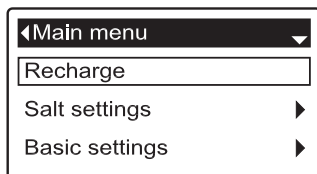
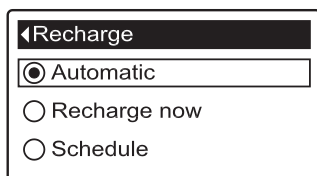
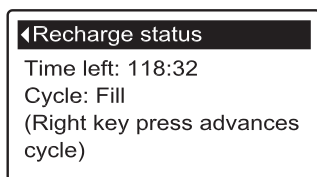

FIG. 28
FIG. 29
FIG. 30
2. Make sure **Recharge** is highlighted (See Figure 28).
3. Press the SELECT (O) button to display the Recharge menu (See Figure 29).
4. If the desired option already has a black dot next to it (See Figure 29), go to Step 5. Otherwise, press the DOWN (▼) or UP (▲) buttons to scroll to the desired option, then press SELECT (O) to choose it.
- **Recharge now** begins a recharge immediately after the SELECT (O) button is pushed again in Step 5.
5. Press the SELECT (O) button. If **Recharge now** is selected, the display immediately goes to the Recharge status screen (See Figure 30). If **Automatic** or **Schedule** are selected, the display goes back to the Main menu (Figure 28).